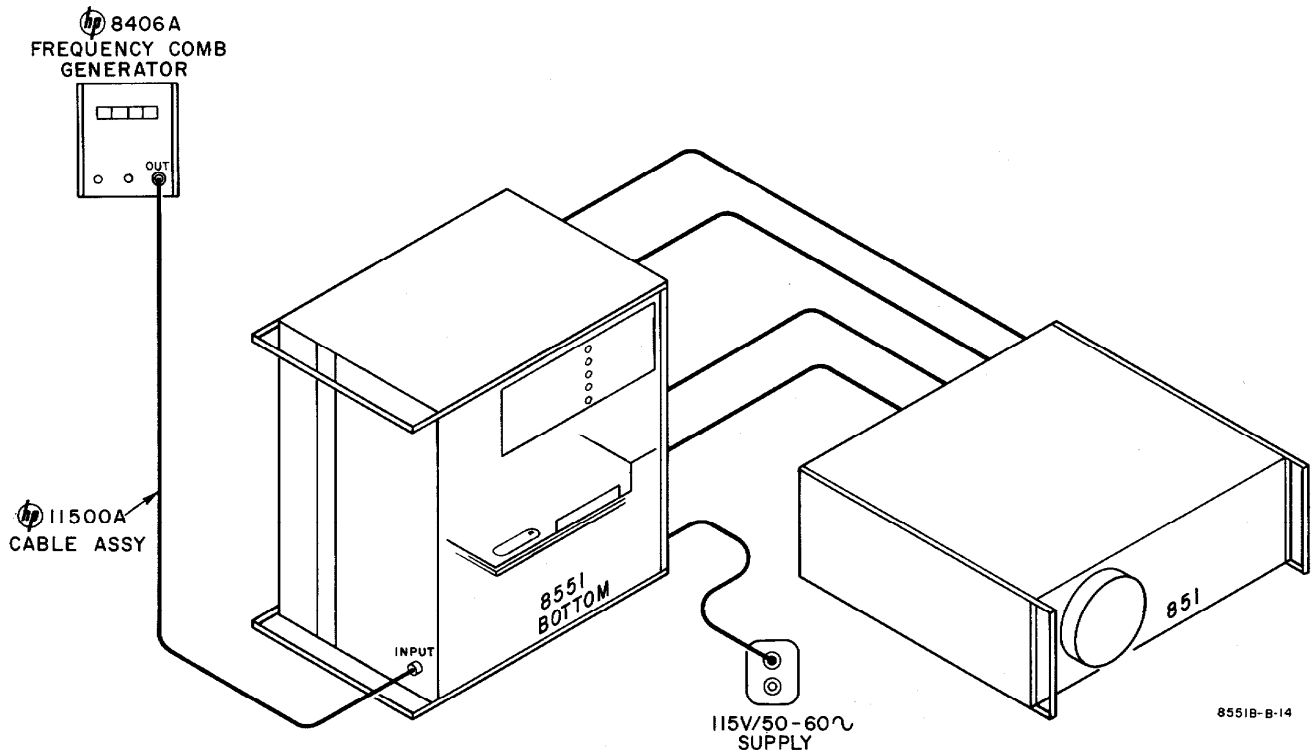

Figure 5-1. Measurement Setup, Frequency Linearity Check
- a. Connect frequency comb generator to 8551B INPUT, as indicated in Figure 5-1. Depress 1-Mc control on generator. At this setting, generator delivers frequency markers spaced 1 Mc apart.